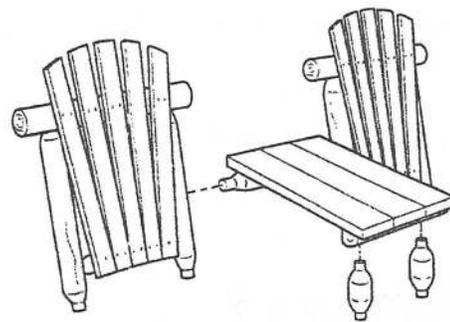

figure 1
STEP 1 Assemble front table supports into table top and back table support into seat backs as shown in figure 1.